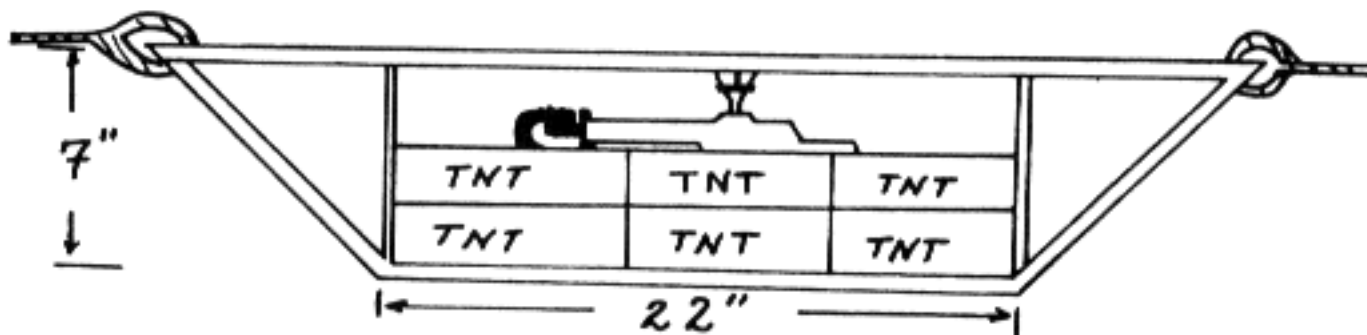

FIGURE 17: SLED CHARGE WITH PRESSURE DEVICE
b. **Type:** Sled Charge (Figure 17).